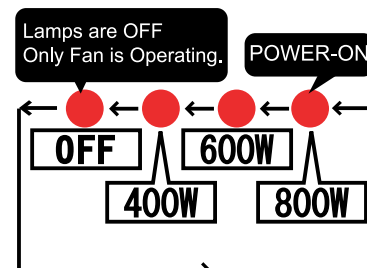

Figure 27. Dimmer Mode Indicator
3. The dimmer mode indicator (Figure 27) will show the current mode.